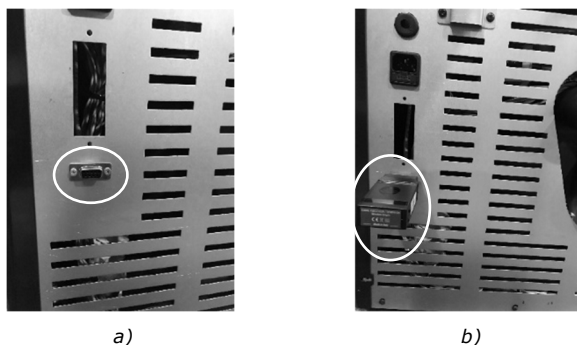

Figure 9 - Wi-Fi module installation
- **For equipment's in Table 1 - Columns B and D:** Attach the Wi-Fi module to the rear of the device as shown in Figure 9.